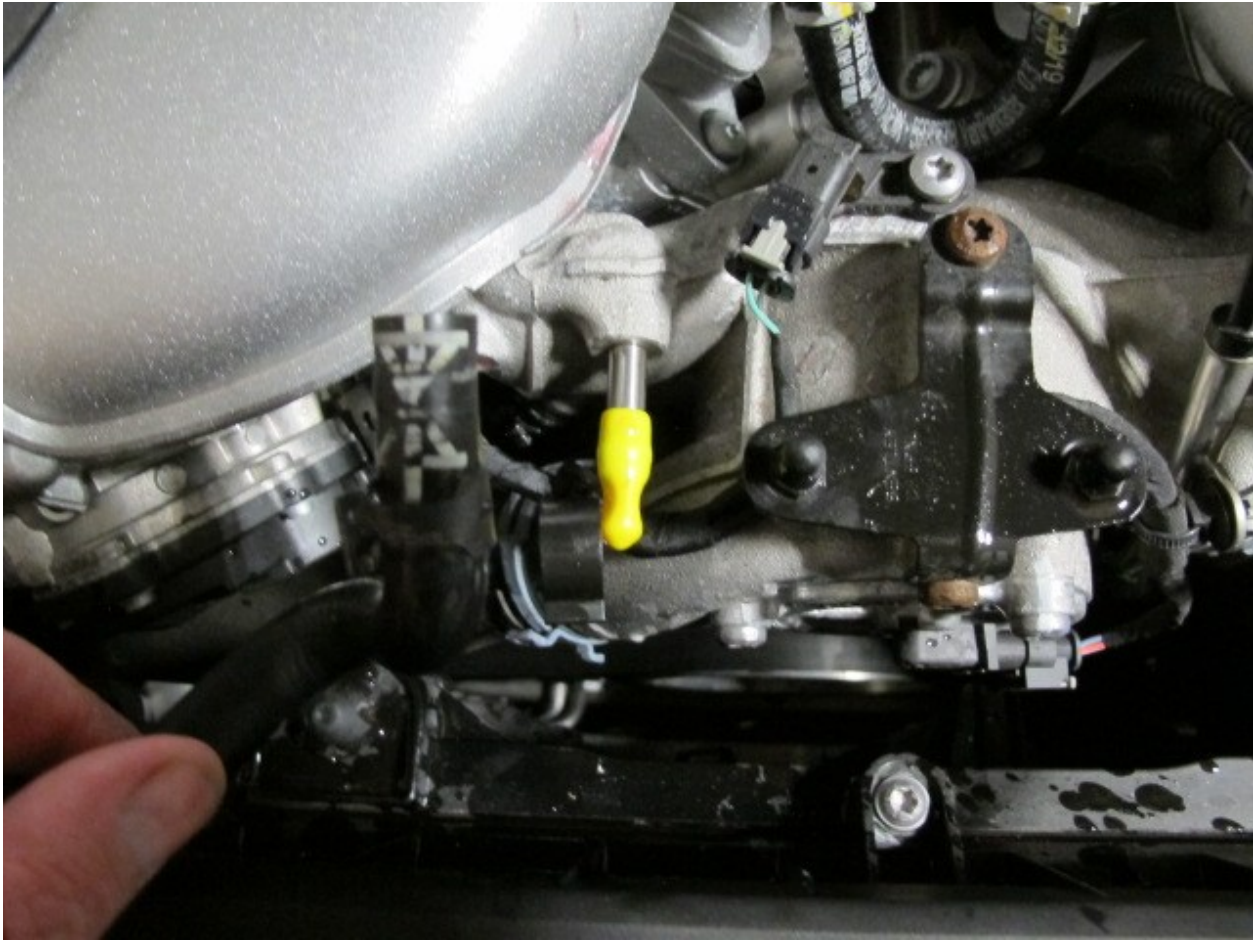

Figure 6
- Referring to Figure 6 - To minimise coolant loss, temporarily fit a blanking plug over the stub pipe